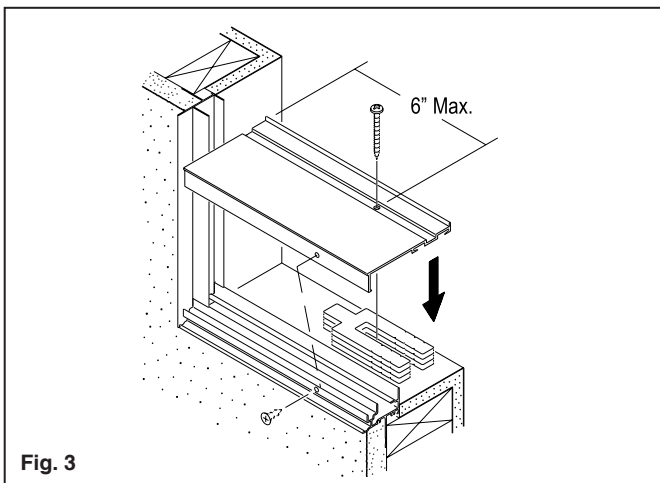

Fig. 3
B. Horse Shoe shims or equal, are needed to support the Sill Plate at installation screw locations. Make sure Sill Plate is straight and level prior to fastening. Screws should be no more than 18” apart on center, with corner screws approximately 6” from jambs. See **Fig. 3**. Use #8 x 2” Phillips sheet metal screws. Length of screw may vary per job condition. Screws must be long enough to secure Sill Plate to existing wood sill. Anchor the exterior leg of the Sill Plate to the existing sill with #6 x 1/4” Phillips flat head sheet metal screws. Seal screw heads with an appropriate sealant after installing.